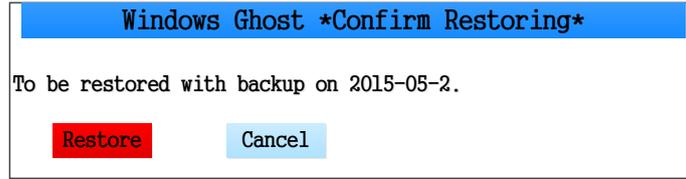
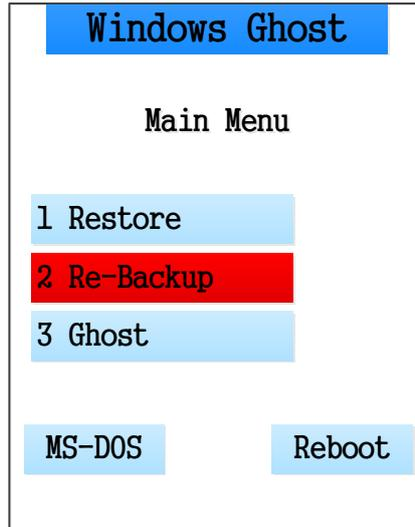

Fig. 5-6 Restoration confirmation
Fig. 5-7 “Window Ghost” interface
- 3) Press [Cancel] to access “Windows Ghost” interface, as shown in Fig. 5-7. Press “2” to select re-backup option.
After re-backing up the system, if you need to use windows ghost restoration function, you can select “1 Restoration” in a dialog box shown as Fig. 5-6 or Fig. 5-7. And you can restore the system as directed.